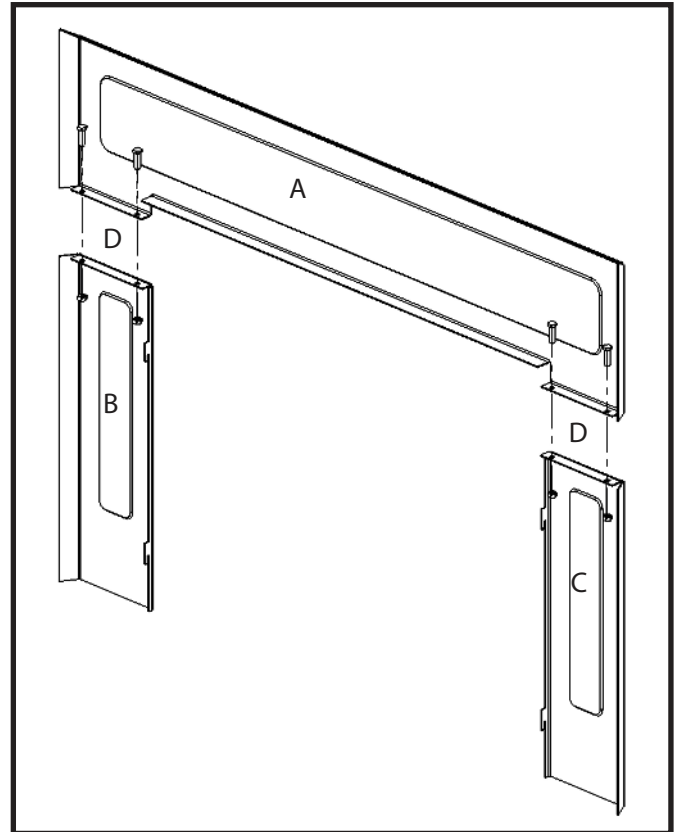

Figure 14: Surround assy.
4. Fasten the panels together with 1/4" x 1/2" bolts and nuts provided through holes at points "D" (Figure 14).